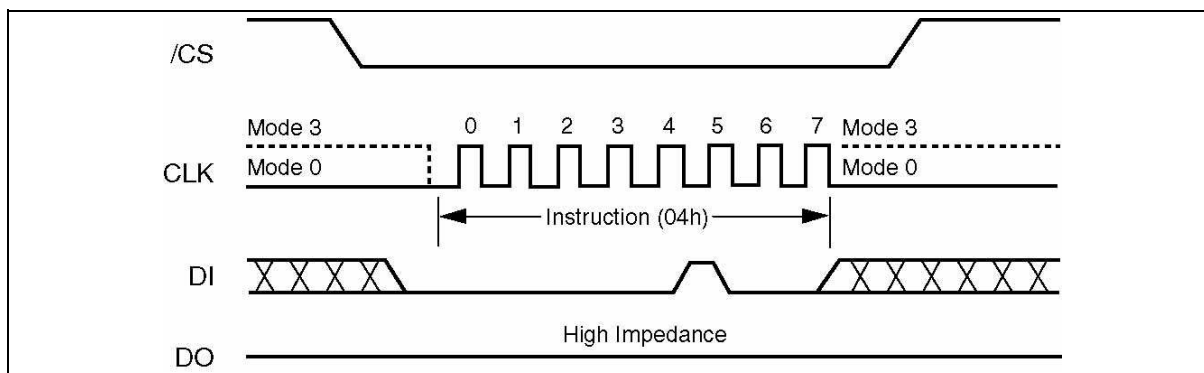

Figure 4. Write Disable Instruction Sequence Diagram
Instructions vary in length from a single byte to several bytes and may be followed by address bytes, data bytes, dummy bytes (don't care), and in some cases, a combination. Instructions are completed with the rising edge of edge /CS. Clock relative timing diagrams for each instruction are included in figures 4 through 16. All read instructions can be completed after any clocked bit. However, all instructions that Write, Program or Erase must complete on a byte boundary (/CS driven high after a full 8-bits have been clocked) otherwise the instruction will be terminated. This feature further protects the device from inadvertent writes. Additionally, while the memory is being programmed or erased, or when the Status Register is being written, all instructions except for Read Status Register will be ignored until the program or erase cycle has completed.
The Write Enable instruction (Figure 4) sets the Write Enable Latch (WEL) bit in the Status Register to a 1. The WEL bit must be set prior to every Page Program, Sector Erase, Chip Erase and Write Status Register instruction. The Write Enable instruction is entered by driving /CS low, shifting the instruction code “06h” into the Data Input (DI) pin on the rising edge of CLK, and then driving /CS high.